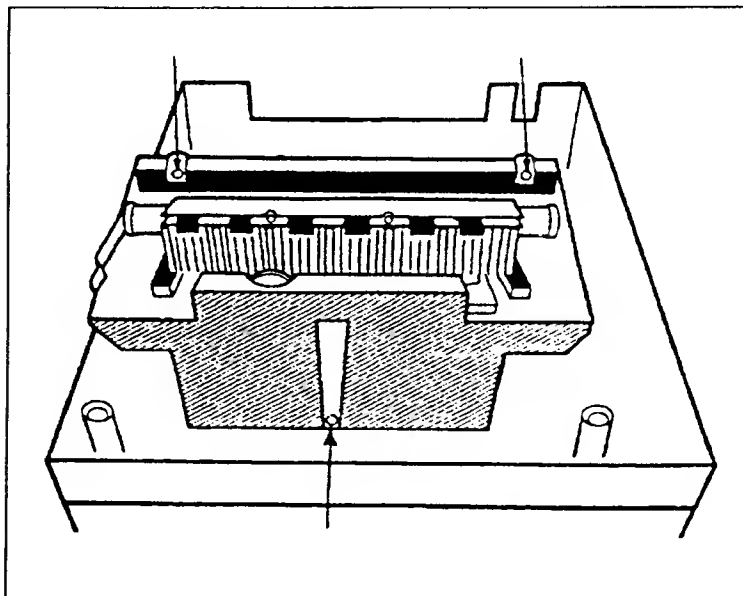

Figure 6-22. Print Mechanism (Top View)
- f. Using a 5mm internal hexagonal driver (allen wrench), remove the three screws, lock washers, and flat washers securing the print mechanism to the printer base (see Figure 6-22).
- i. Remove the three 5 mm hexagonal screws which secure the print mechanism to the base of the printer (see Figure 6-22), and remove the print mechanism from the printer.
- f. Install the print mechanism into the base of the printer (see Figure 6-22).
- d. Remove the three bolts from the print mechanism (see Figure 6-22). (The print mechanism is not going to be removed from the printer, only tilted in a later step).